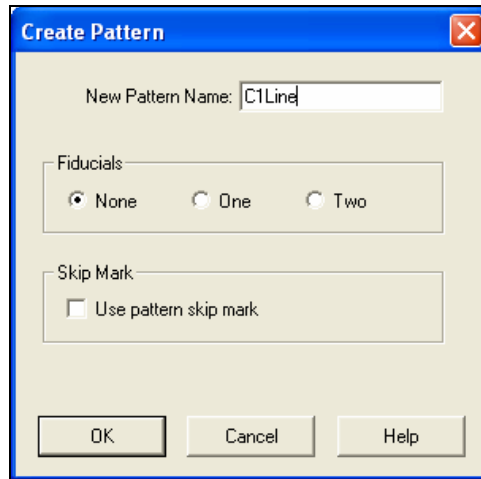

Figure 3-10 Create Pattern Dialog Box
- ▶ The Create Pattern dialog box (Figure 3-10) opens.